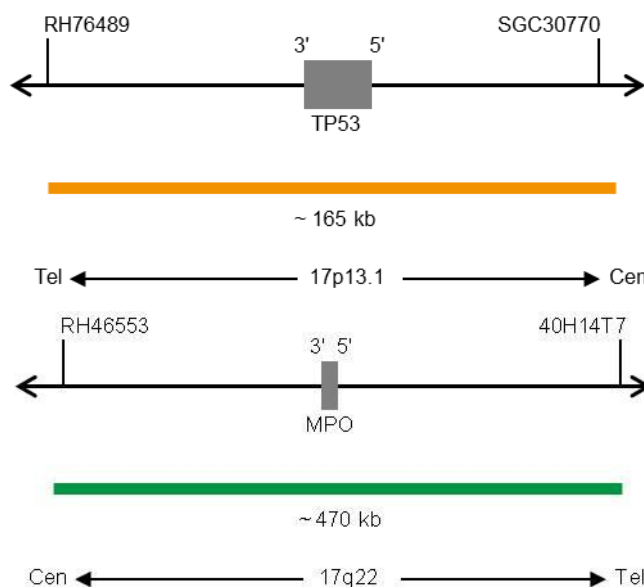

Fig. 1: Top: SPEC TP53 Probe map, Bottom: SPEC 17q22 Probe map (not to scale)
- ZyOrange (excitation 547 nm/emission 572 nm) labeled polynucleotides (~4.5 ng/μl), which target sequences mapping in 17p13.1* (chr17:7,495,749-7,663,022) harboring the TP53 gene region (see Fig. 1).
- ZyGreen (excitation 503 nm/emission 528 nm) labeled polynucleotides (~10.0 ng/μl), which target sequences mapping in 17q22* (chr17:56,124,338-56,594,220) (see Fig. 1).